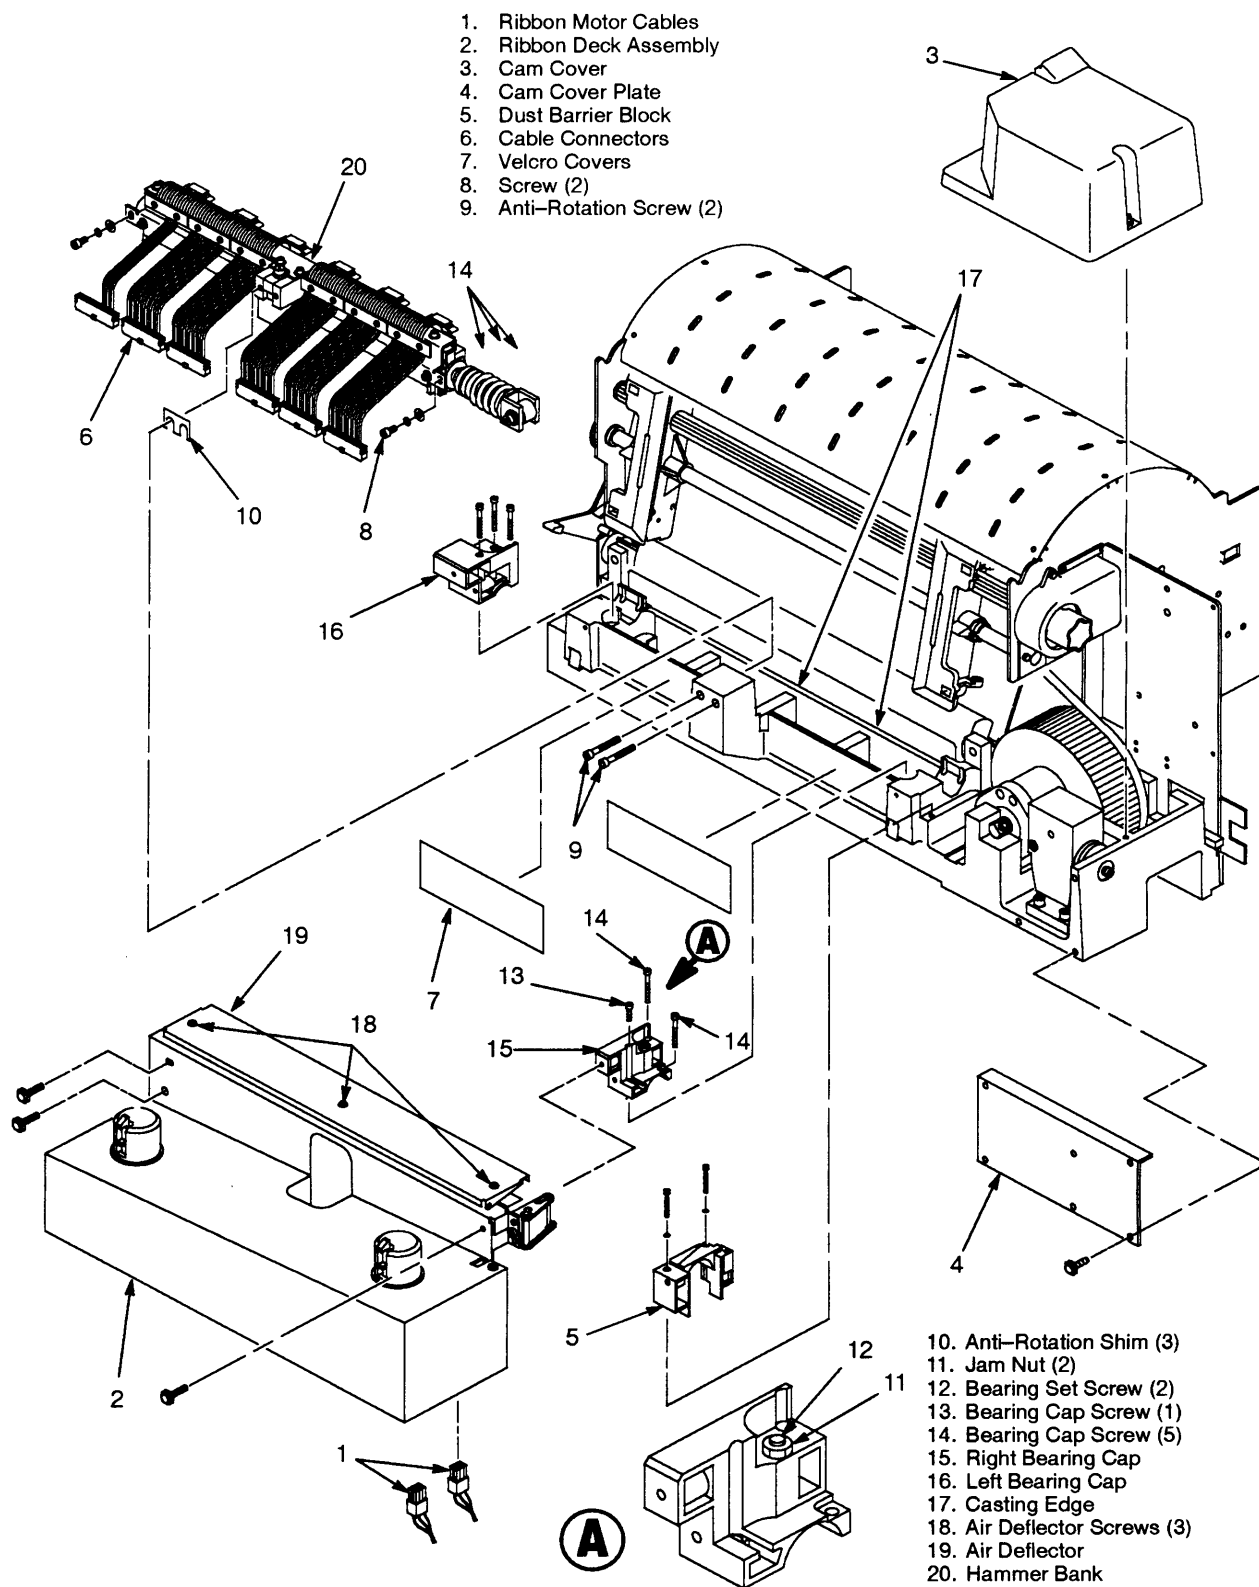
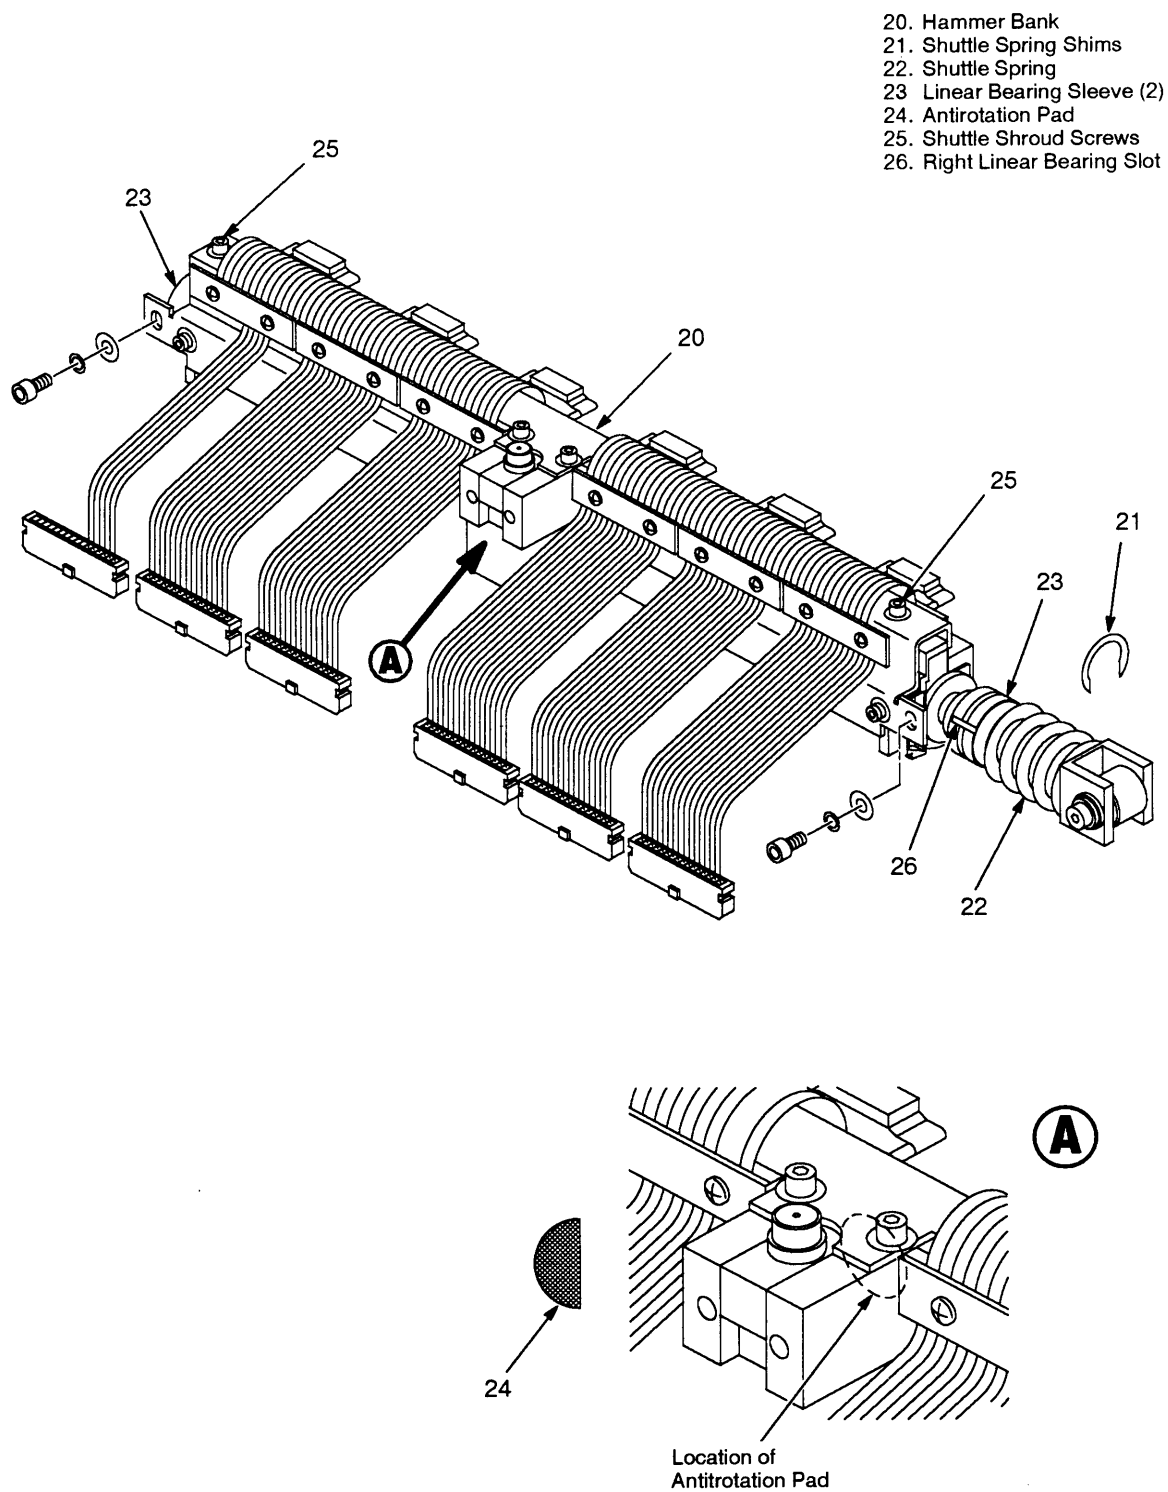
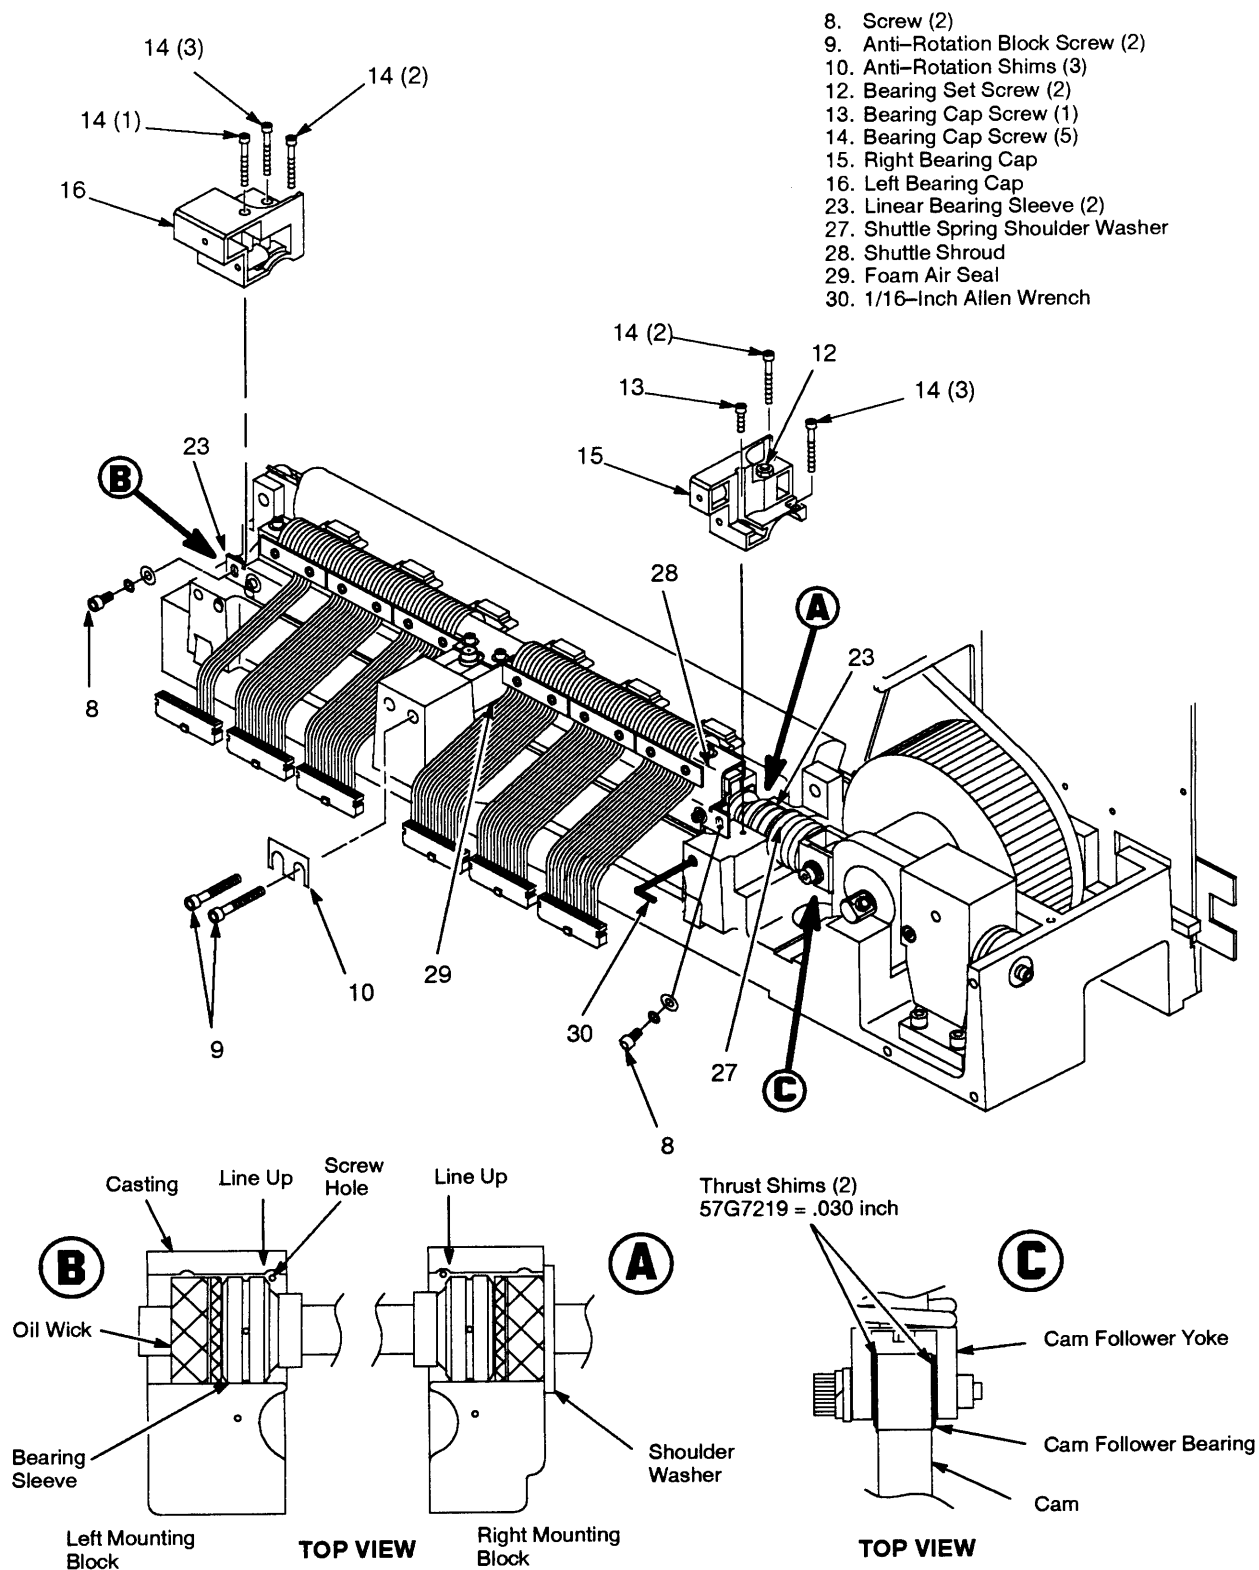

Figure 7-1. Hammer Bank Removal/Installation
Figure 7-3. Replacement Hammer Bank
Figure 7-4. Installing Hammer Bank
4. Disconnect the ribbon motor cables (1) on each side of the ribbon deck. Disconnect the ribbon guide cables. (See Figure 7-1.)
5. Remove the ribbon deck assembly (2) by removing one screw on the right side of the ribbon deck, and two screws on the left side.
6. Remove the cam cover (3).
7. Remove the cam cover plate (4).
8. Remove the dust barrier block (5).
9. Remove the two velcro covers (7).
10. Disconnect the six hammer bank cables (6).
11. Remove the two screws (8) that attach the shuttle shroud to the bearing caps.
12. Remove the two anti-rotation block screws (9) and the anti-rotation shims (10). Do not discard the shims.
13. Loosen the jam nut (11) in the center of each bearing cap. Loosen the bearing set screw (12) in the center of each bearing cap.
2. Prepare to install the new hammer bank (20) in the printer casting:
- a. Note the U-shaped shims (21) installed at the end of the shuttle spring (22). (See Figure 7-3.)
- c. Also, do not let the left linear bearing (23) slip off the shaft.
3. Keeping the shuttle shroud, hammer bank cables, and antirotation pad (24) in place by holding the right and left shuttle shroud screws (25) with your thumbs, pick up the hammer bank assembly.
4. Position the hammer bank in the base casting with the shuttle spring shoulder washer (27) against the machined surface of the casting, the linear bearings near the center of their mounting blocks (Figure 7-4, A and B), and the cam follower bearing in contact with the cam (Figure 7-4C).
5. Rotate the bearing sleeves (23) until the slots (Figure 7-3) are facing the front of the printer. Make sure that the front edge of the shuttle shroud (28) fits behind the machined edge of the casting (Figure 7-1), and that the foam air seal (29) makes a tight seal against the casting.
15. Try to slide a .004-inch feeler gauge (Figure 7-5B) between the side of the cam and the alignment tool at the top and bottom of the tool. If the feeler gauge fits in the top space (Figure 7-5B, left), add anti-rotation block shims (Figure 7-4). If the feeler gauge fits in the bottom (Figure 7-5B, right), remove shims. Usually, adding or removing one .005-inch shim will correct the alignment.
16. Remove the antirotation tool (34). Apply a small dab of bearing lubricant to both sides of the two thrust shims. Install the cam follower bearing screw (33) and the original washers, the roller bearing, and two thrust shims. Torque the bearing screw (33) to 20 in-lb. Remove the screwdriver (32) from between the yoke and fly wheel shank.
17. Connect the six hammer bank cables and install the velcro covers. Install the dust barrier block (Figure 7-1).
20. Insert a 1/16-inch Allen wrench into the slot of the *right* bearing sleeve to keep the slot forward. (See Figure 7-4.)
27. Install the ribbon deck and connect the ribbon motor cables. (See Figure 7-1.)
33. Install the dust barrier block, cam cover plate, and cam cover. (See Figure 7-1.)
35. If adjustment is required, loosen the air deflector screws. Position the air deflector so that columns 1 and 132 on the paper scale line up with the first and last characters on the 132 character printout, then tighten the air deflector screws. (See Figure 7-1.)